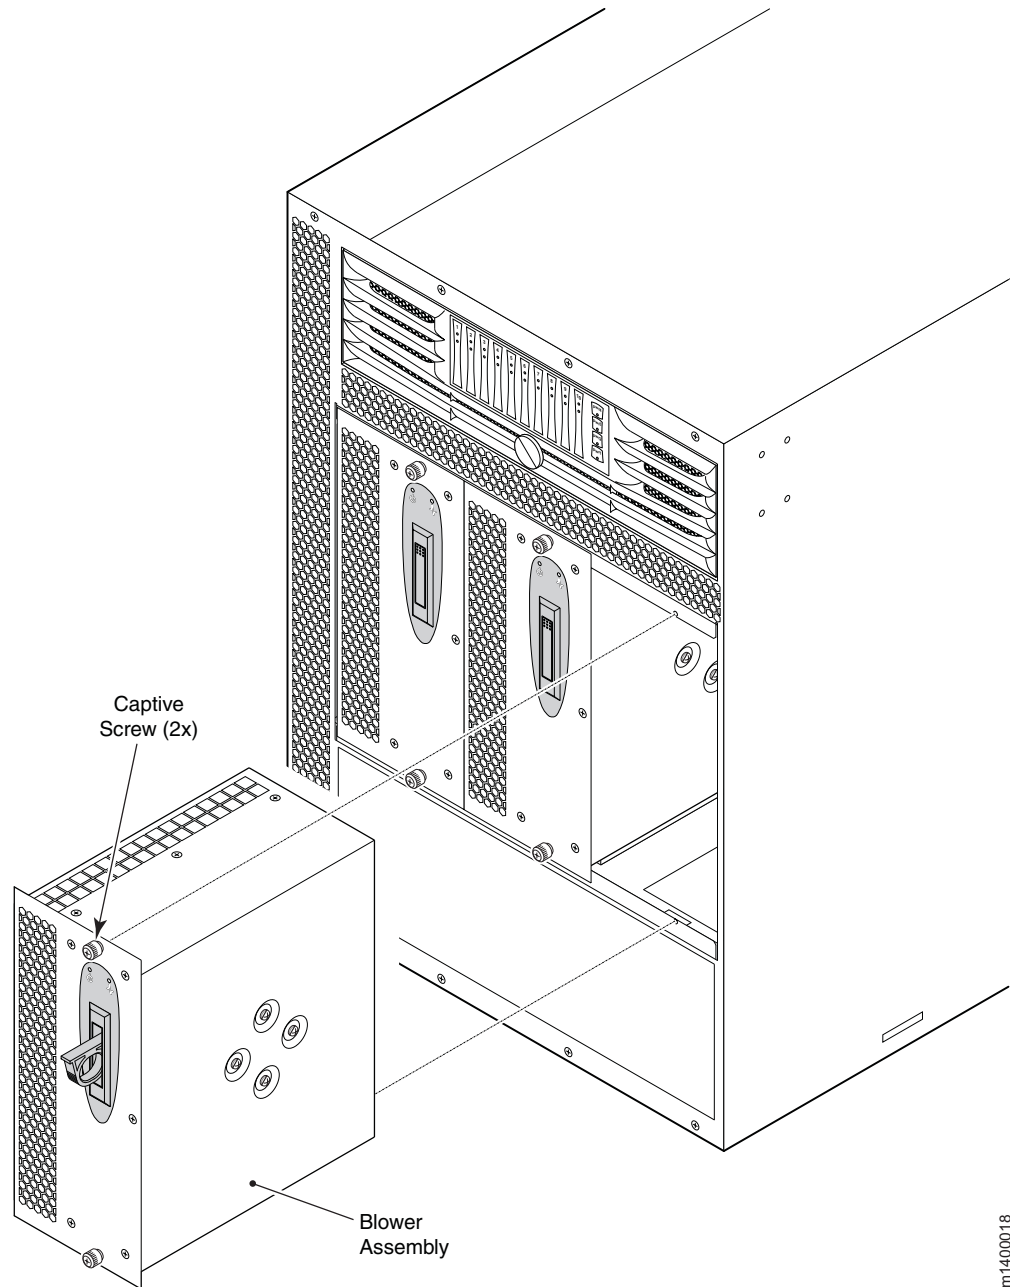

Figure 45. Blower assembly removal
- a. Use the screwdriver to loosen the self-retaining screws at the top and bottom of the blower assembly. See Figure 45 on page 75.
- a. Orient the blower assembly as shown in Figure 45.